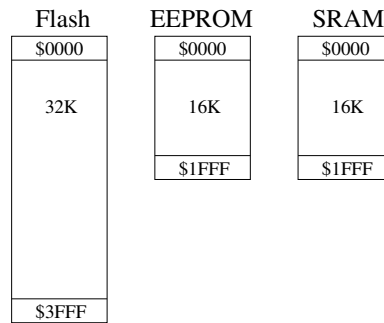

Figure 2.7: Separate Memory Addressing.
- Each memory is addressed separately, see Figure 2.7.